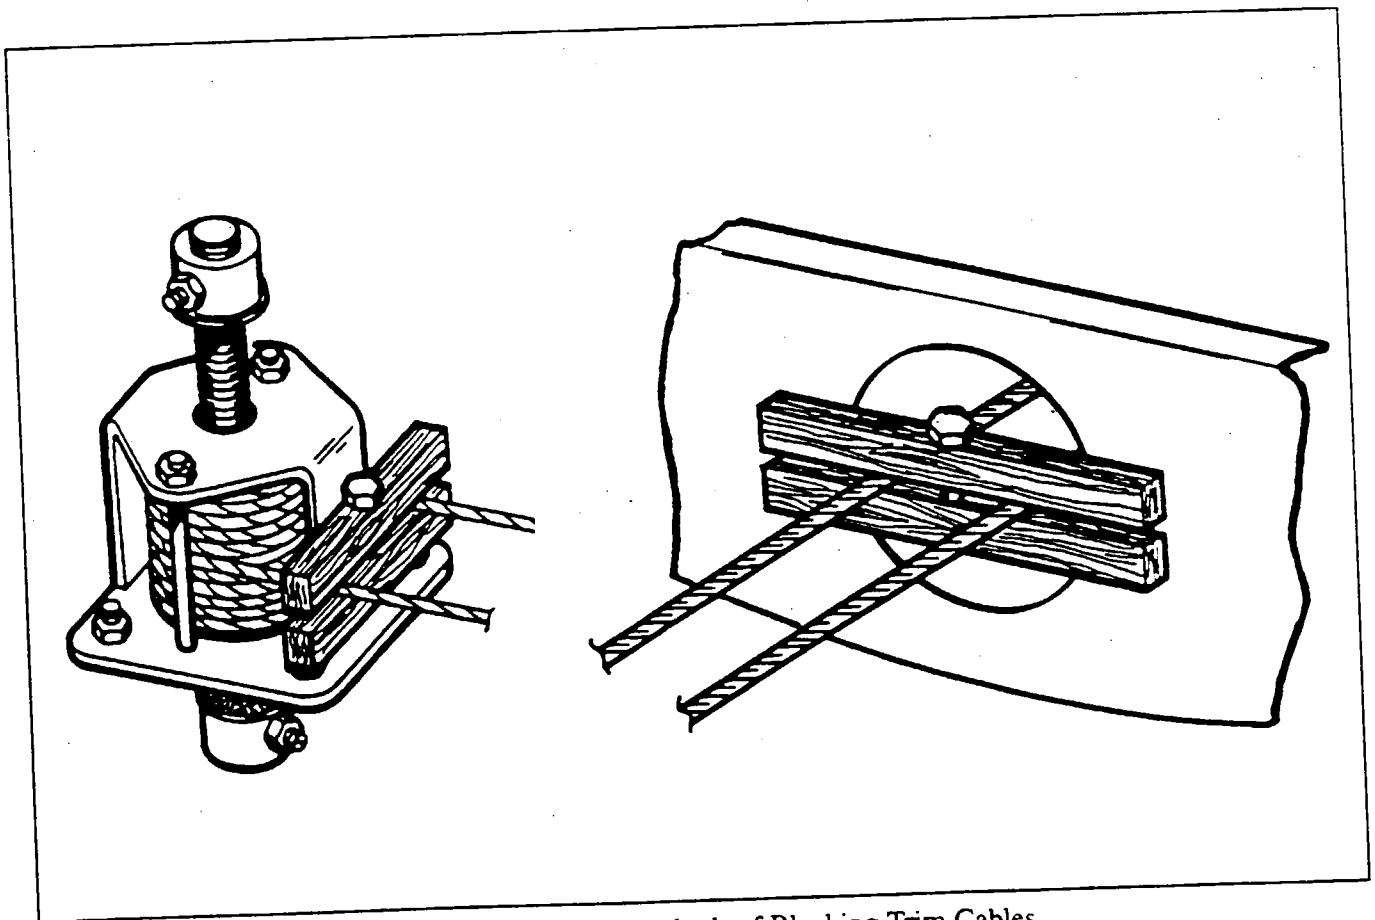

Figure 57-2. Typical Methods of Blocking Trim Cables
- C. Remove the access panels at the aft section of the fuselage. Block the elevator and rudder trim cables ahead of the main spar and in the aft section of the fuselage to prevent the cables from unwrapping at the trim drums. (Refer to Figure 57-2.) Disconnect the elevator and rudder trim cables at stations 308.75 and 287.50. Draw the cables forward through the main spar, to allow the cables to be drawn through the fuselage. Remove the cable guard pins from stations 243.25 and 262, also remove the rub blocks from stations 137, 162.60, 174 and 215.